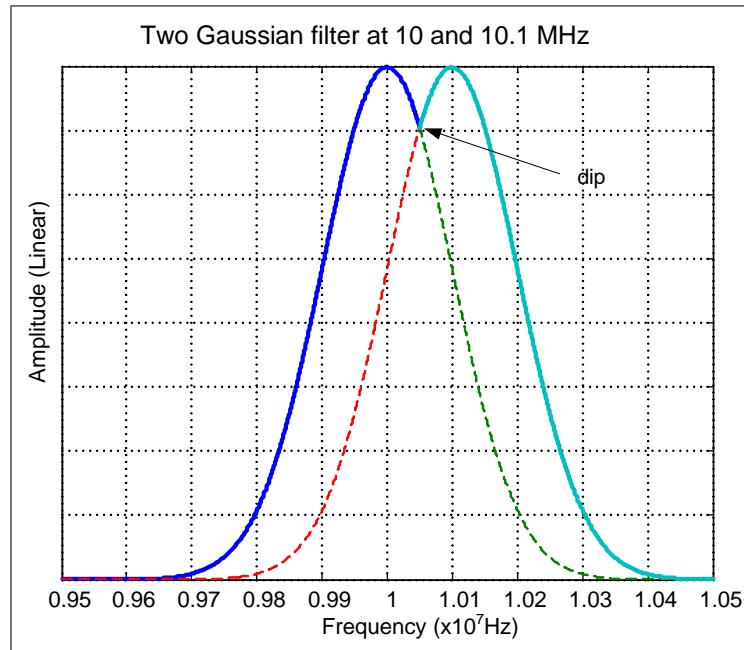

Figure 15 Measuring the depth of the 'dip'
4. Since the resolution bandwidth must be less than or equal to the frequency separation of the two signals, a resolution bandwidth of 100 kHz must be used. Change the resolution bandwidth to 100 kHz by pressing **BW/Avg 100 kHz**. Two signals are now visible as indicated Figure 15 **Save the data on magnetic media (CSV format)**. Use the knob or step keys to further reduce the resolution bandwidth and span to better resolve the signals **Save the data on magnetic media**.